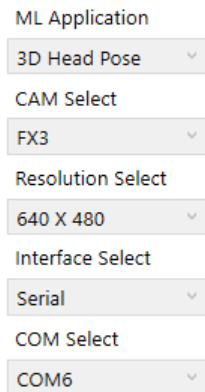

Figure 4.7. Properties for the GUI
7. Check and ensure you select the correct options for the 3D HeadPose demo, as shown in Figure 4.7.